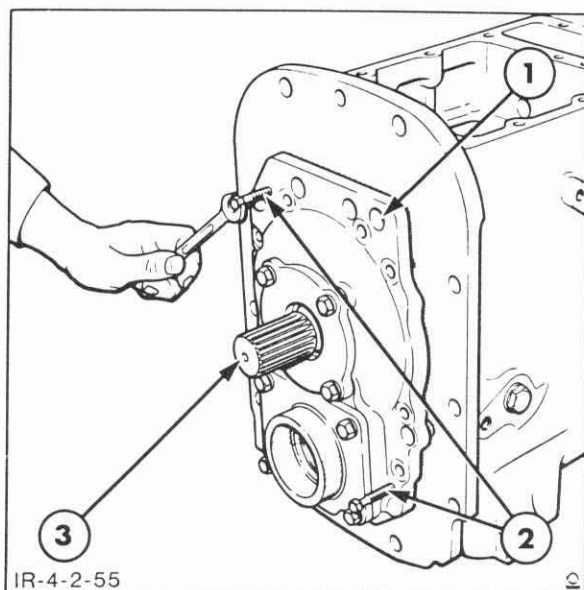

Figure 4-148
4. Remove the rear cover retaining bolts then screw two jacking bolts into the rear cover as shown in Figure 4-148. Tighten the two jacking bolts equally until the rear cover is free of the transmission case. Remove the two jacking bolts and remove the rear cover assembly.